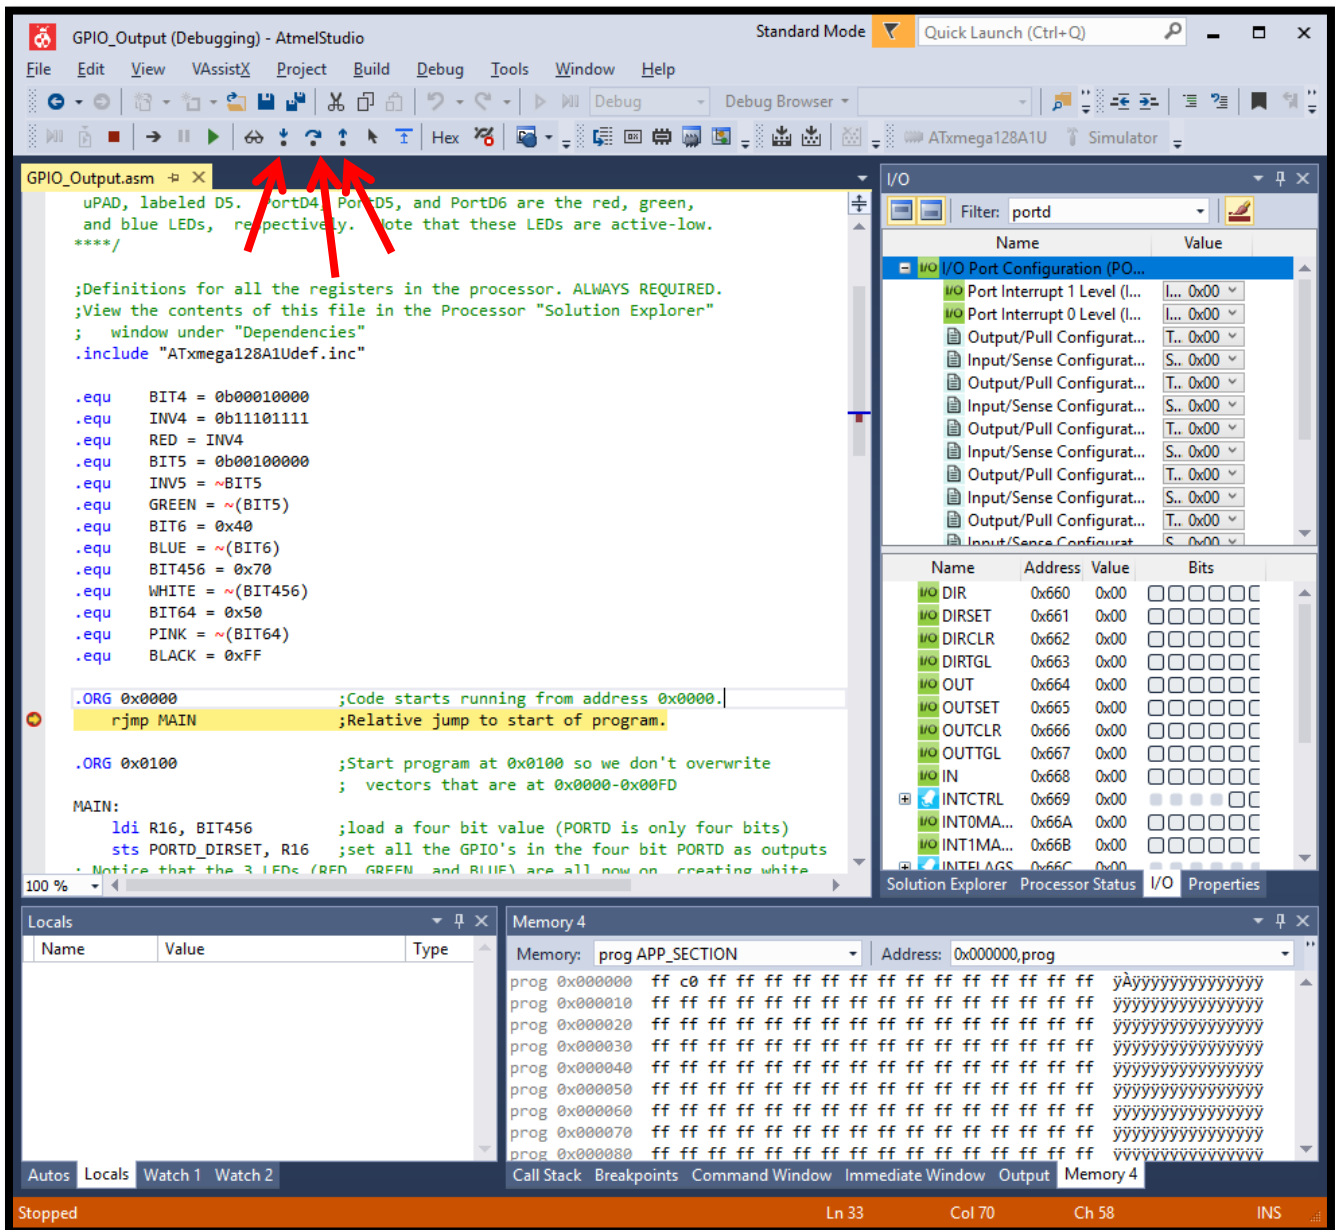

Figure 9: Step Into, Step Over, and Step Out debug icons
11. Within the I/O view, filter for and select *I/O Port Configuration (PORTD)*. (To search for this, you may type something as simple as “portd” in the *Filter* textbox, as shown in *Figure 9*.) After selecting the correct port configuration, you will be able to view all of the registers associated with PORTD.
To execute the next instruction within your program, you can click the *Step Into* icon (as pointed to by the leftmost red arrow in *Figure 9*), or press **F11** on your keyboard. (You may also step through each instruction by navigating to **Debug** \rightarrow **Step Into**).
NOTE: Two other useful debug stepping features are *Step Over* and *Step Out*, as pointed to by the second-rightmost and rightmost red arrows in *Figure 9*, respectively. *Step Over* will always execute the next instruction in the current procedure frame as a single unit, i.e., if the next instruction to be executed consists of a procedure call, the entire procedure will be executed in a single step. *Step Out* executes the remaining lines of a function in which the current execution point lies.